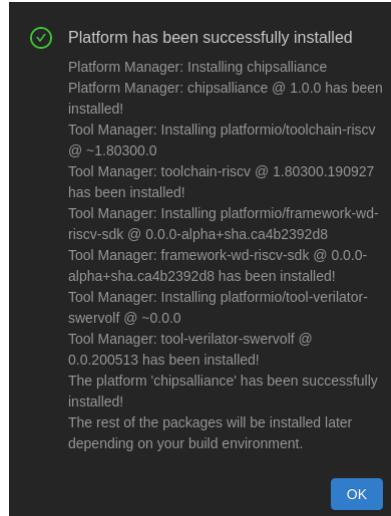

Figure 101. Successful installation of CHIPS Alliance Platform
3. Once installation completes, a summary of the tools that have been installed is shown, as in Figure 101. Click **OK** to close that window.